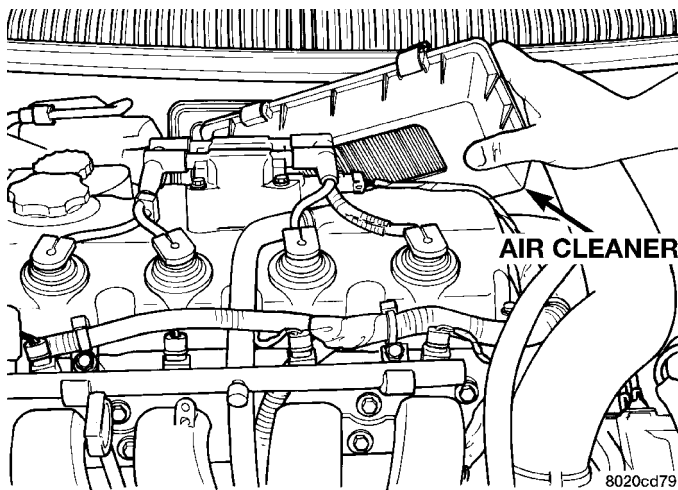

Fig. 105 Removal/Installation Air Cleaner Front Housing and Element
- (2) Unfasten clasps on top of air cleaner housing. Rotate front of housing forward then lift front away from air cleaner housing (Fig. 105).
- (3) Remove air cleaner element from front housing (Fig. 105).